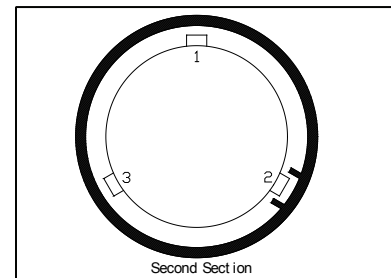

figure 2
- c. Place the second section on the core with the drive pins on each side of tube 2. Be sure the drive pins angle down (figure 2).